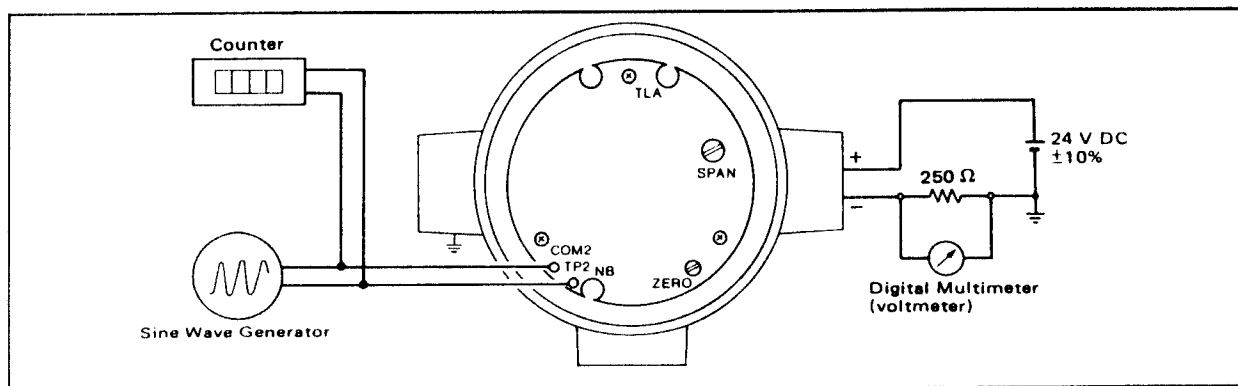

Figure 6-1. Span Adjustment Setup (Analog Output).
- (1) Connect instruments as shown in Figure 6-1. Warm up the instruments for at least five minutes. Use a 250  $\Omega$  or other readily available resistor whose resistance value is within the tolerances given in Figure 4-1.
- (2) Set the sine wave generator to 2 to 5 V (rectangular wave may be used) and set the frequency obtained from the following equation.